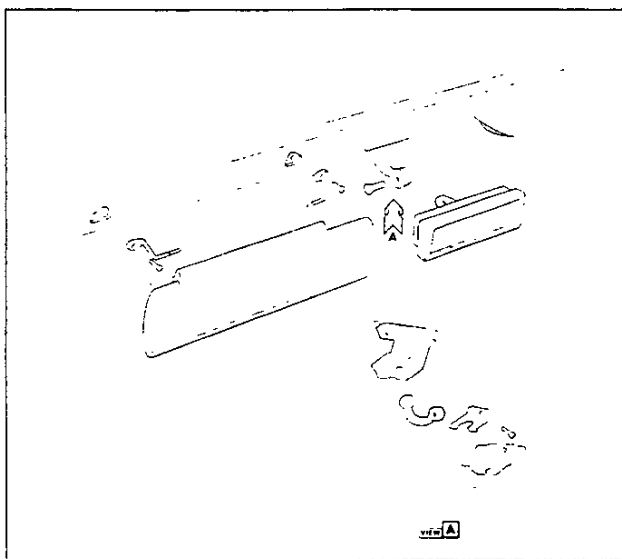

Fig. 12—Sun Visor and Inside Rearview Mirror
Installation of inside mirror is illustrated in Figure 12. Tension of mirror stud is increased by tightening adjusting screw.
Attachment of sun visor assembly to windshield header is made as shown in Figure 12. Turning of adjusting screw clockwise increases friction.
## WINDSHIELD (Figs. 12 to 16)
4. Remove lower corner reveal moldings (L and R) by removing two (2) screws located at end flanges to fender, and carefully prying out from retaining clips.
5. Remove side retainer moldings (L and R) by removing three (3) screws to frame.
6. Remove side reveal molding (L and R) by removing one (1) remaining screw.
8. Secure one end of steel music wire to piece of wood for handle. Insert other end through caulking material at lower corner of windshield; then secure end of wire to another piece of wood (fig. 12).